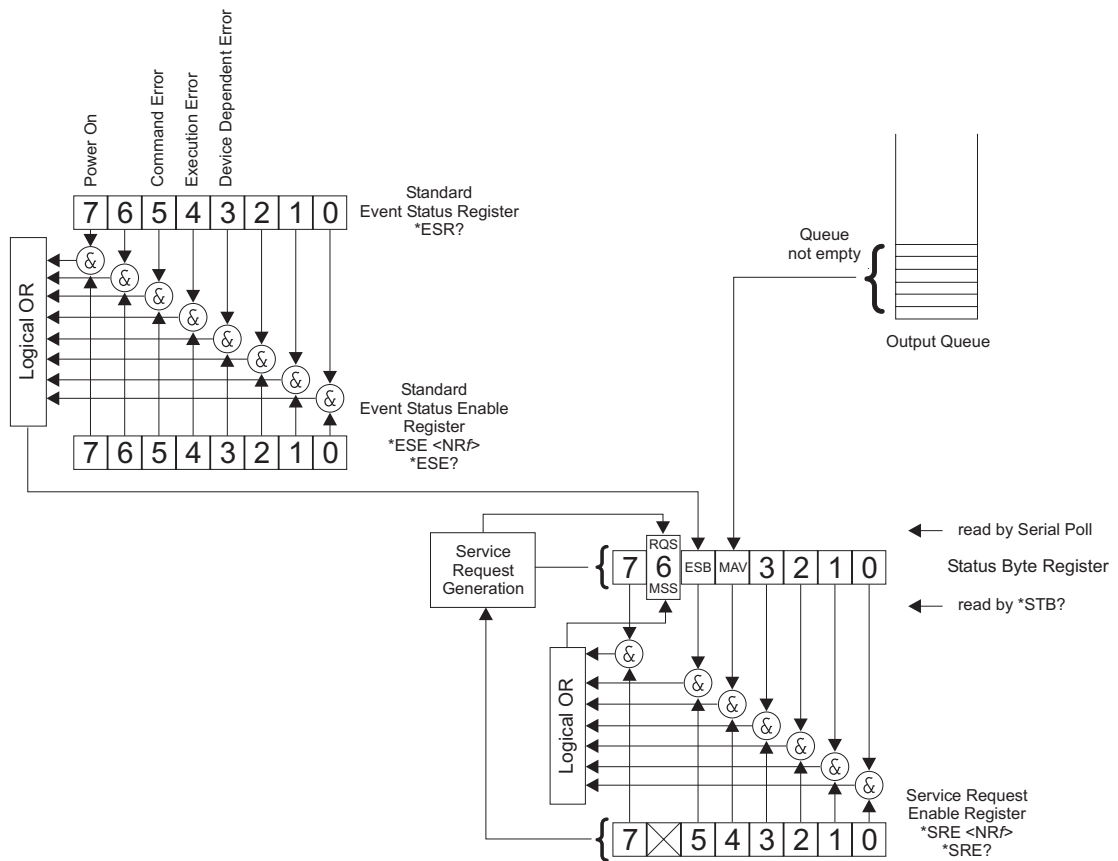

Figure 6-8. IEEE 488.2 Standard Status Structures
**Remarks:** Event registers for the HP 437B (see Figure 6-8):